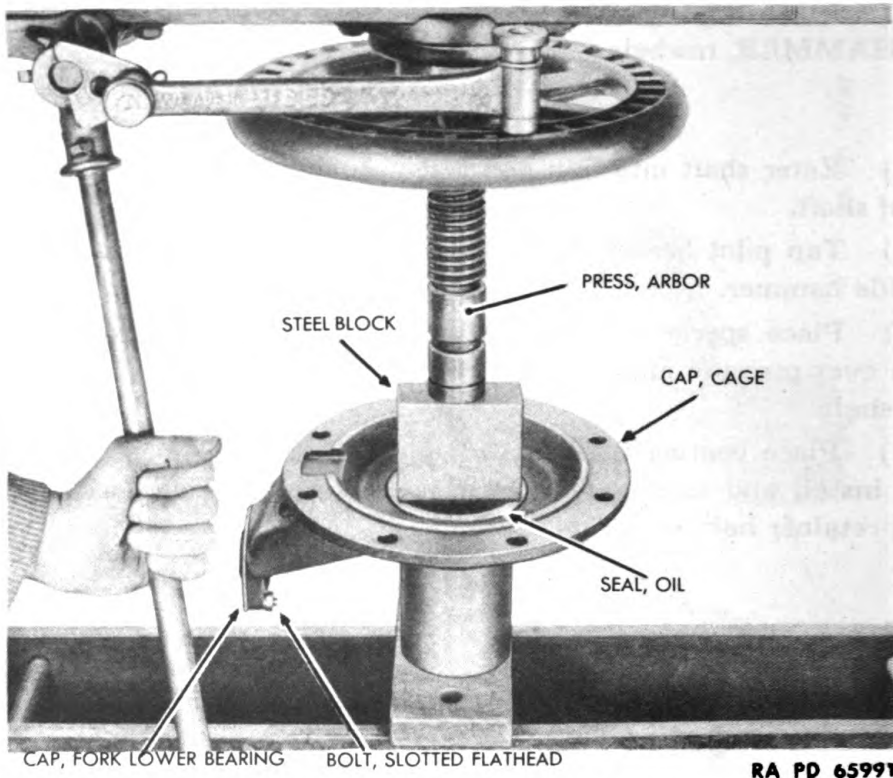

Figure 108 — Oil Seal in Drive Bevel Gear Bearing Cage Cap Installation
(6) INSTALL OIL SEAL IN DRIVE BEVEL GEAR BEARING CAGE CAP (fig. 108).